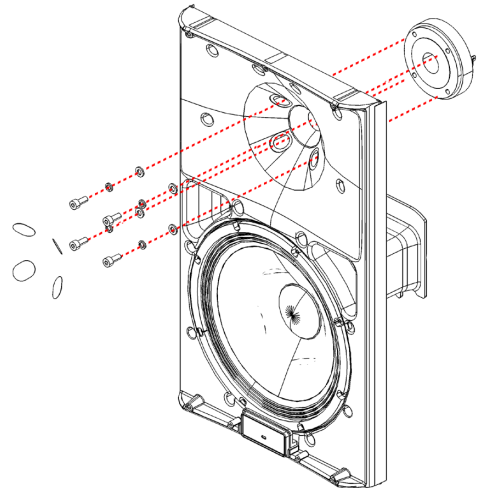

Figure 5.4.1 - K8.2 and K10.2 HF transducer
3. Remove the 4 screws, 4 washers, and 4 lock-washers that secure the HF transducer to the baffle. See Figure 5.4.1.